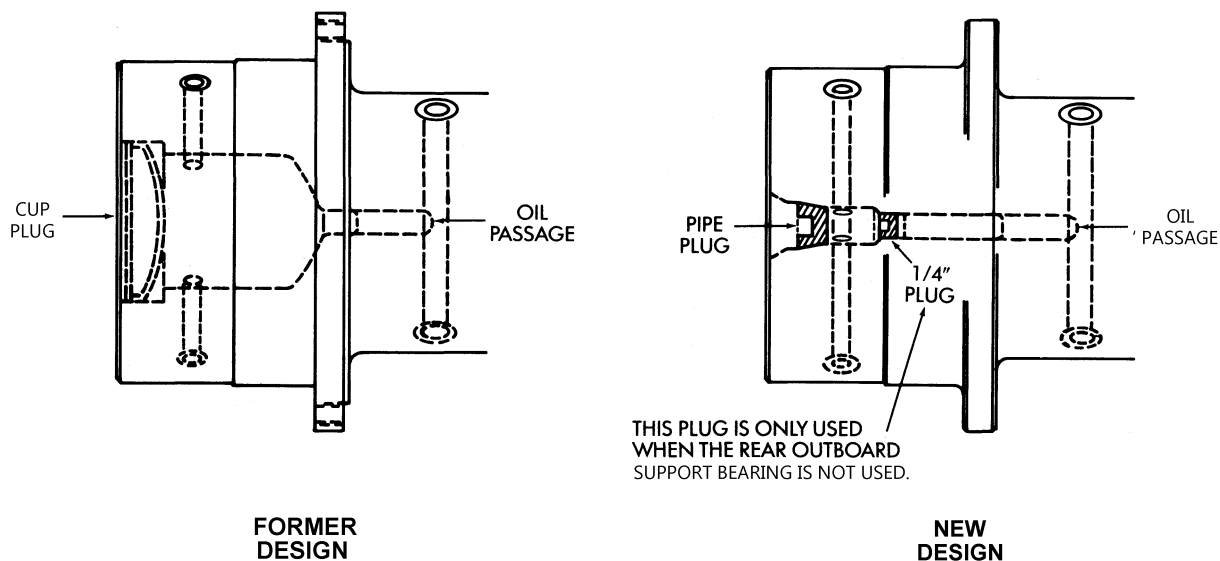

Fig. 10 - Former and Current Series 49 Engine Crankshaft End Designs
- b. The ends of former crankshafts were counterbored to receive 3" cup plugs (Fig. 10). A limited number of former crankshafts were produced with 3 1/8" or 3 1/4" cup plugs. The ends of current crankshafts are drilled and tapped to accept 1/2" - 14 Vibraseal-coated pipe plugs. A few crankshafts were also produced with 3/4" plugs.